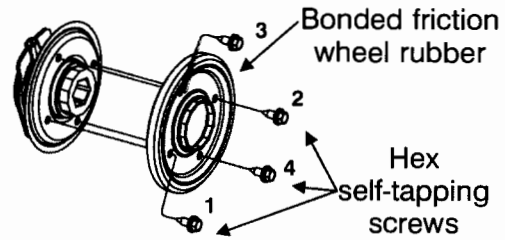

FIGURE 20
- Reassemble new bonded friction wheel rubber to the friction wheel assembly, turn each screw approximately 2 turns in order shown in Figure 20 until screws